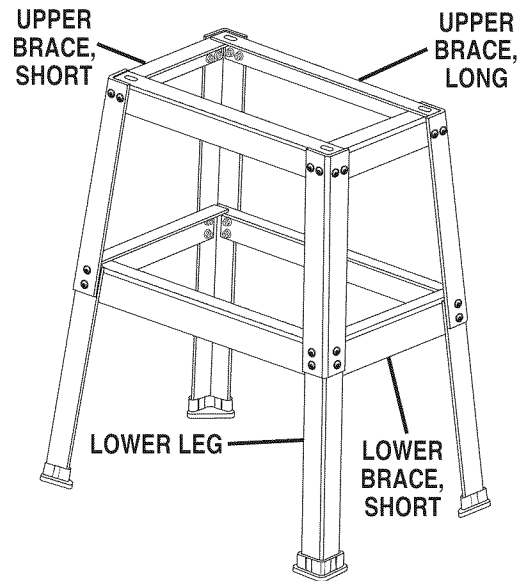

Fig. 7
- Turn leg stand upright as shown in figure 7.